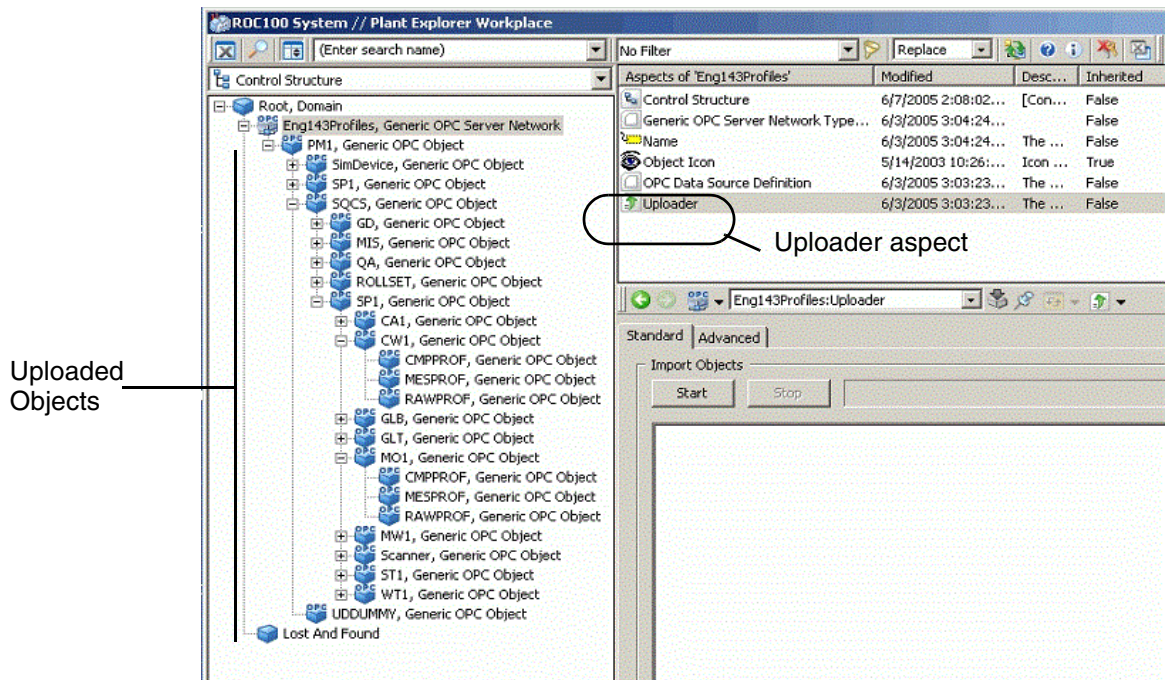

Figure 10. Uploading the Profile Objects to the 800xA Aspect Directory
5. Upload the profile objects from the Accuray Object server (reference Figure 10):